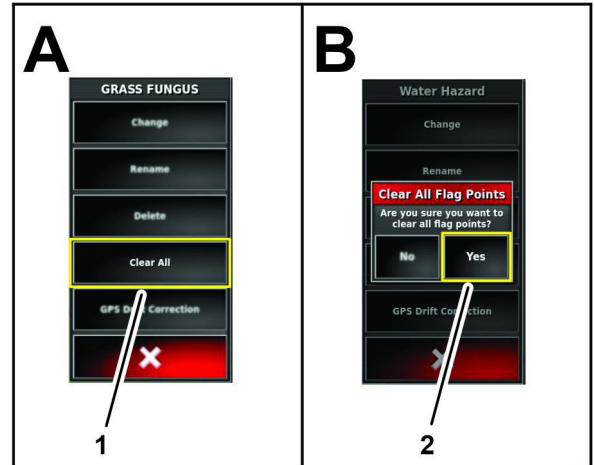

Figure 86
- In the edit flag menu, press the CLEAR ALL icon (Figure 86).
- In the clear all flag points dialog box, press the YES icon (Figure 86).